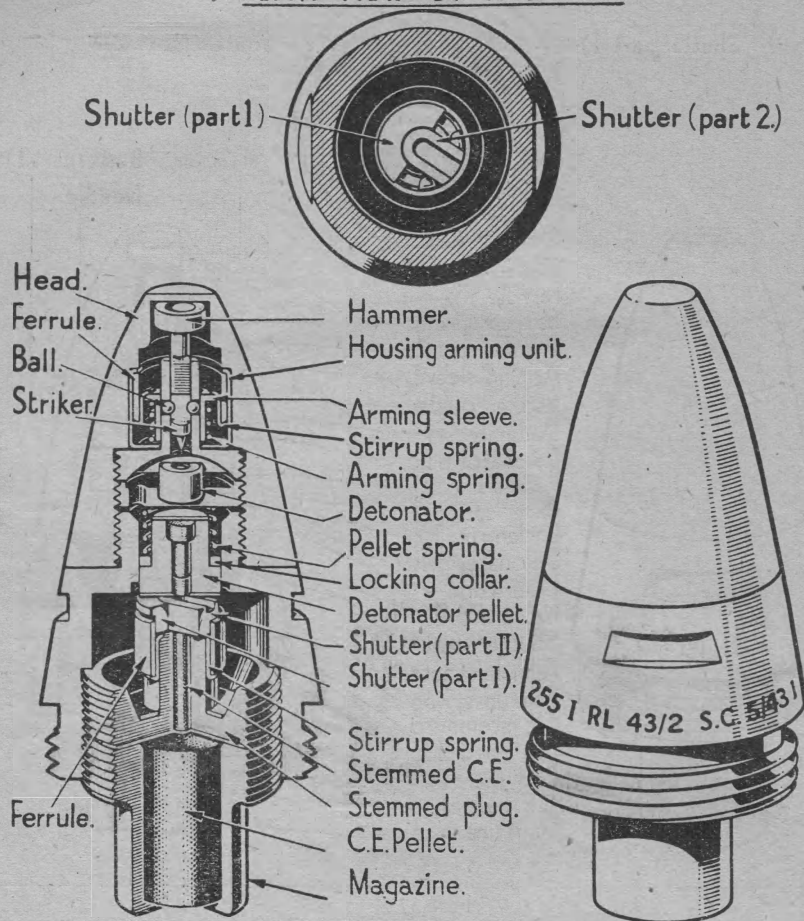

FIG. 58.
**113. Fuze, Percussion, D.A. No. 255** (Fig. 58).—The Mark 1A Fuze, Percussion, No. 255, is generally similar to the No. 251 Fuze, differing principally in being filled delay.